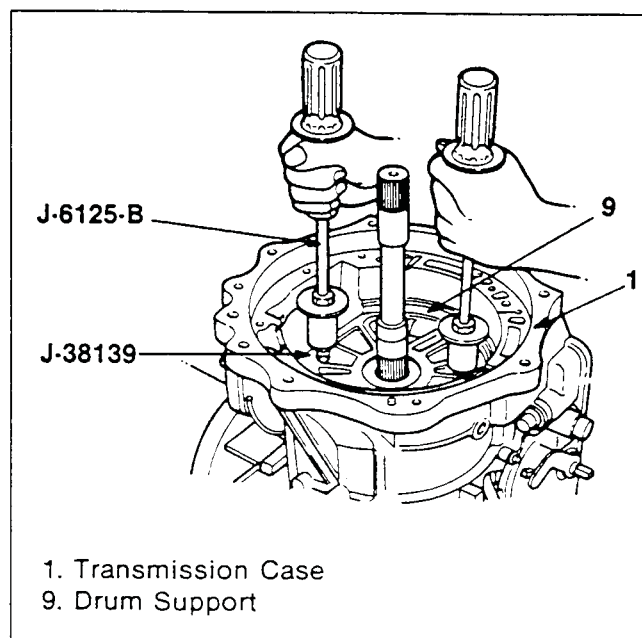

Figure 273. Drum Support Installation
4. Apply special grease (included in the repair kit) to the outer surface of the drum support and inner surface of the case. Install the drum support with two slide hammers and adapter (special tool) with the input shaft as a guide (figure 273).